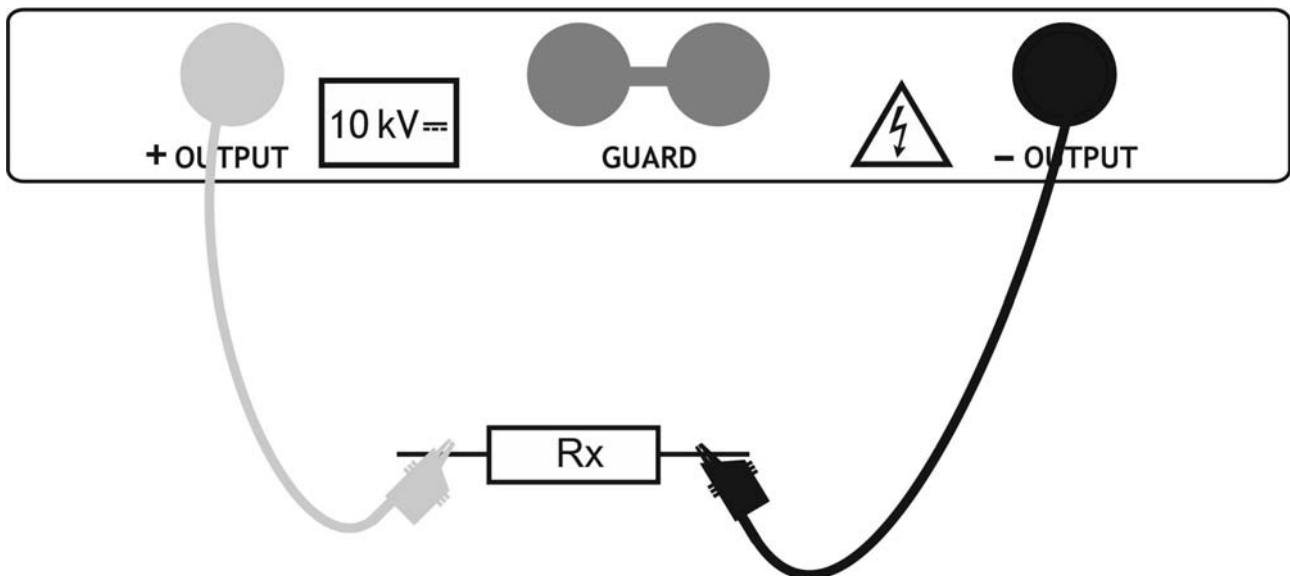

Fig. 46: Connection of instrument for withstanding test
4. Connect the tip of Test lead 1 or Test leads 2 (positive) and the black cable of Test leads 2 (negative) to the object on test (see Fig. 46)